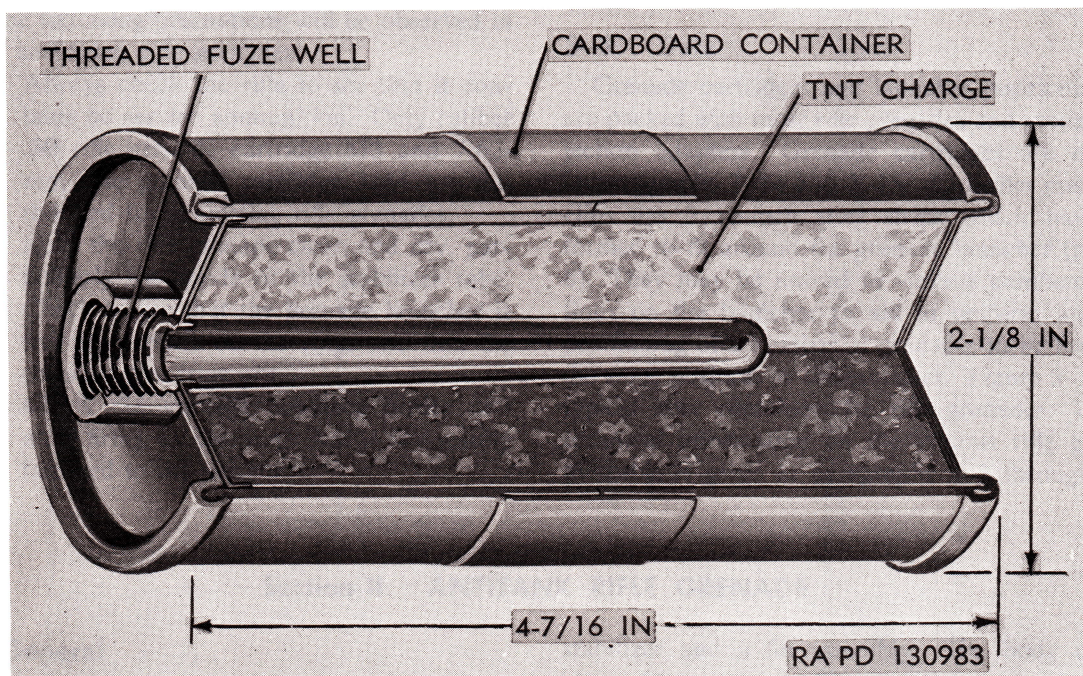

Figure 2-24. Mk3A2 offensive hand grenade.
a. Description. The Mk3A2 (fig. 2-24) is the standard offensive hand grenade. It is about the same size as the fragmentation hand grenade, but has a cylindrical body made of pressed fiber. The complete grenade weighs approximately 15.6 ounces and contains about 8 ounces of flaked TNT as its filler. It is used with the "silent" type fuze M206A2. The shape of the safety lever of the fuze, slightly dif-